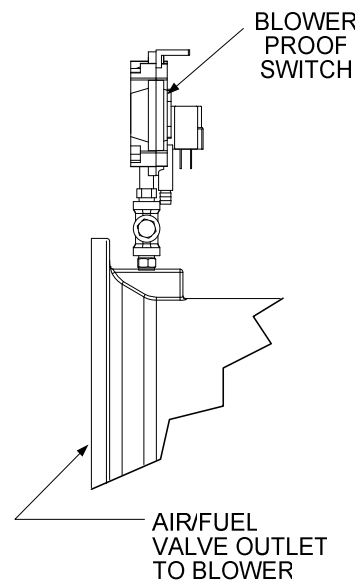

Figure 3-5.
4. Next, the blower proof switch on the Air/Fuel Valve (Figure 3-5) closes. The display will show *Purging* and indicate the elapsed time of the purge cycle in seconds. The normal (default) time for the purge cycle is 10 seconds.